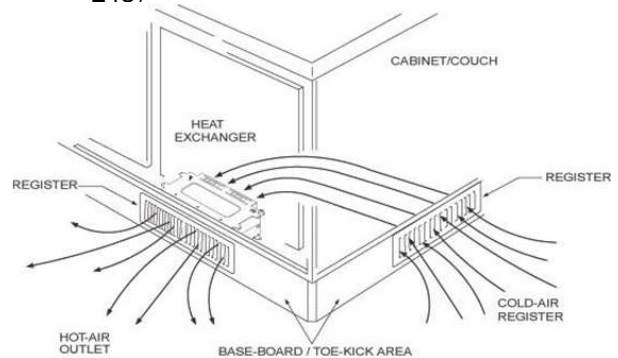

Figure 145
- Heat exchangers should be mounted as close to the hot air outlet grill as possible (reference Figure 145)